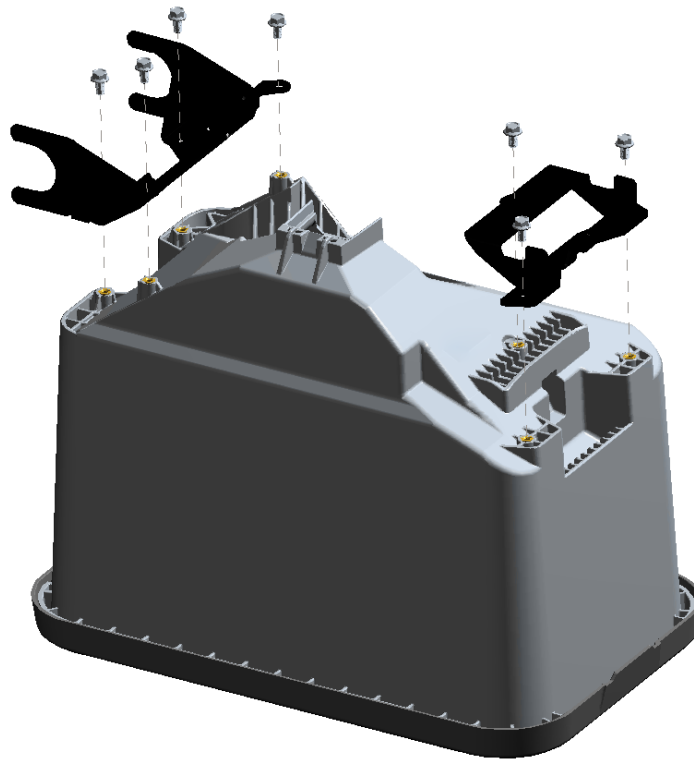

Figure 3 – SpeedTube Hopper Bracket Installation
- c) Install the front and rear brackets in their respective locations on the hopper using the existing hardware removed in step 1a. Do not over tighten. Refer to figure 3.